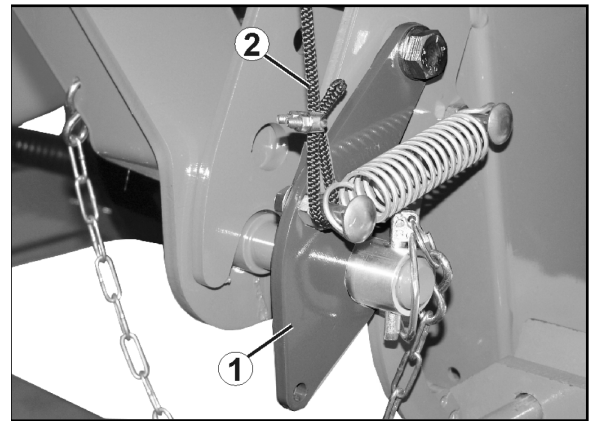

Fig. 50
- use the upper link pin (Fig. 50/2) of the coupling triangle, fit with a ball sleeve and secure with a linchpin.
- fit the lower link pin with ball sleeves, fit the spacer sleeves (Fig. 50/3) and secure with a linchpin.